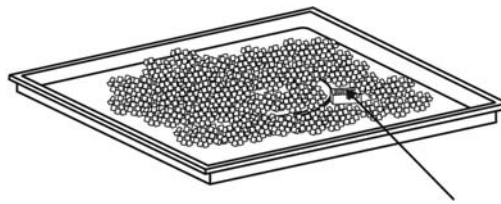

Figure 5
3. Remove the cardboard cover from the ignition well as shown in Figure 5. Remove any lava rock or fire ice on top of ignition well.